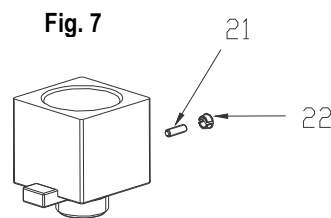

Fig. 7
4.23 (See Fig. 7) After screwing the hose to the mixer, remove cap (22) from handle, undo the grub screw with hexagonal key (supplied) half a turn. This will enable the hose to rotate freely.